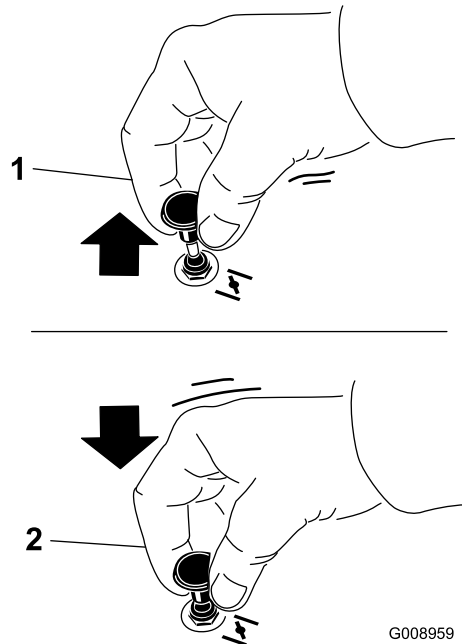

Figure 12
1. Pull up on the choke knob to engage the choke before using the ignition switch (Figure 12).
2. Push down on the choke to disengage the choke after the engine has started (Figure 12).